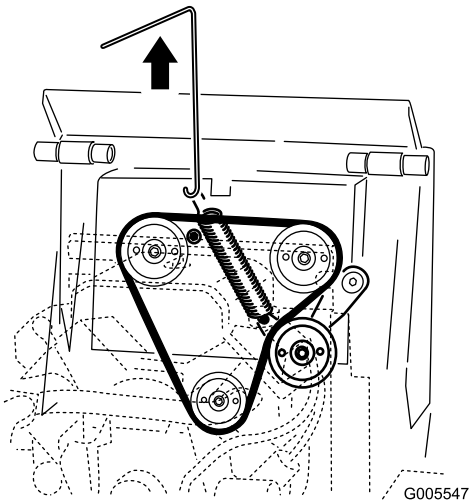

Figure 47
5. Remove the belt from the three pulleys (Figure 47).